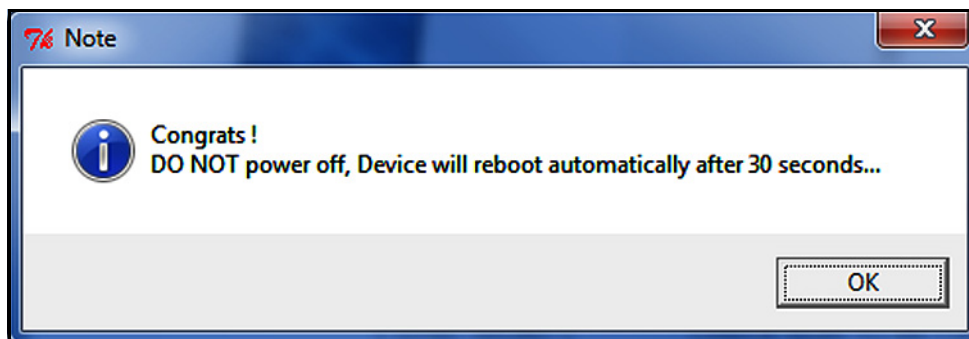

Figure 38: Reboot Message
- After the progress bar indicates that the firmware update is 100% complete (about 10 minutes), the message shown in *Figure 38* below will be displayed. Note that the AT600 will automatically reboot in 30 seconds.